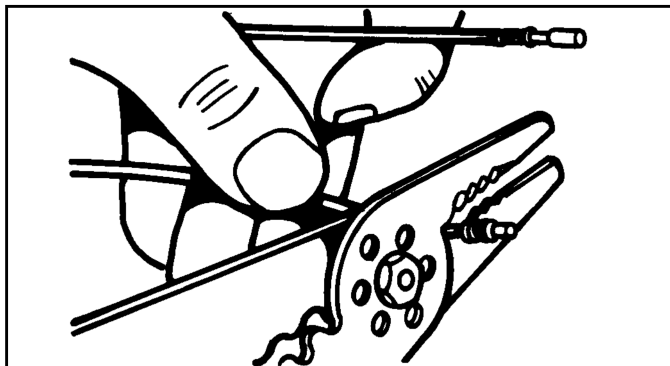

Figure 3-5
1. Cut wire as close as possible to old terminal and remove old cable seal. (See Figure 3-5).